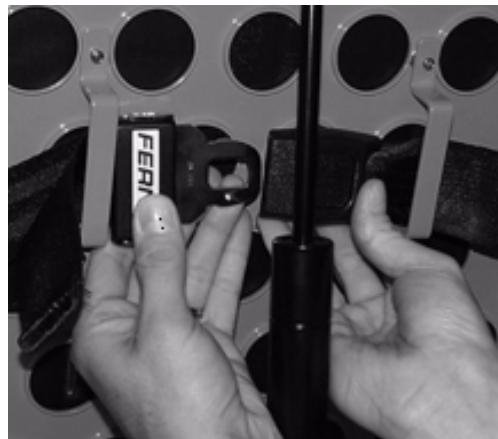

Figure 22 - Fastening the Pedi-Mate™ Buckle
4. Wrap the straps around the backrest and insert the ends of the straps through the brackets. Securely fasten the buckle (see Figure 22).